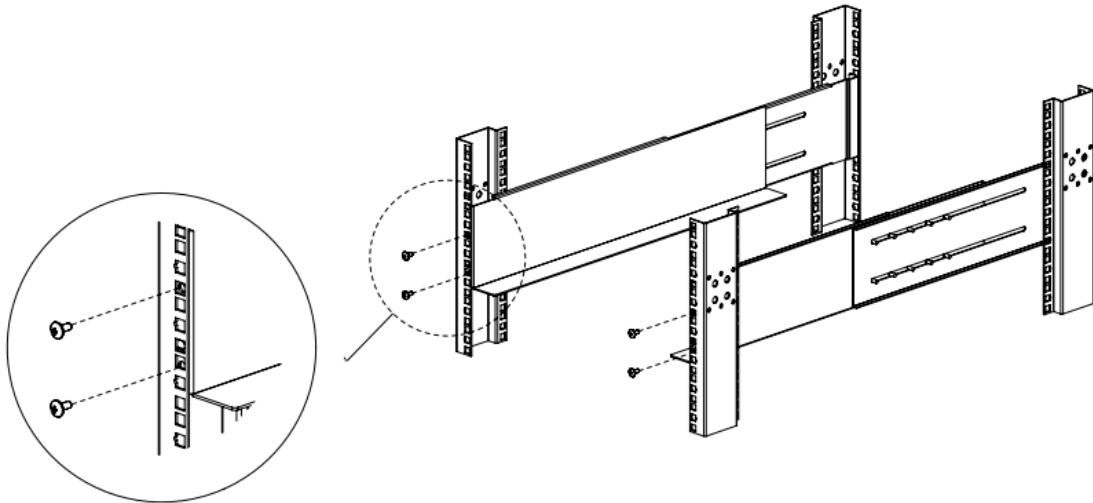

Figure 44: Install the Front Side of Rails
41. Install the front side of the rail kit with 2x Phillips Pan Head M5X12 screws (see Figure 44) on each rail. Do not tighten the screws.